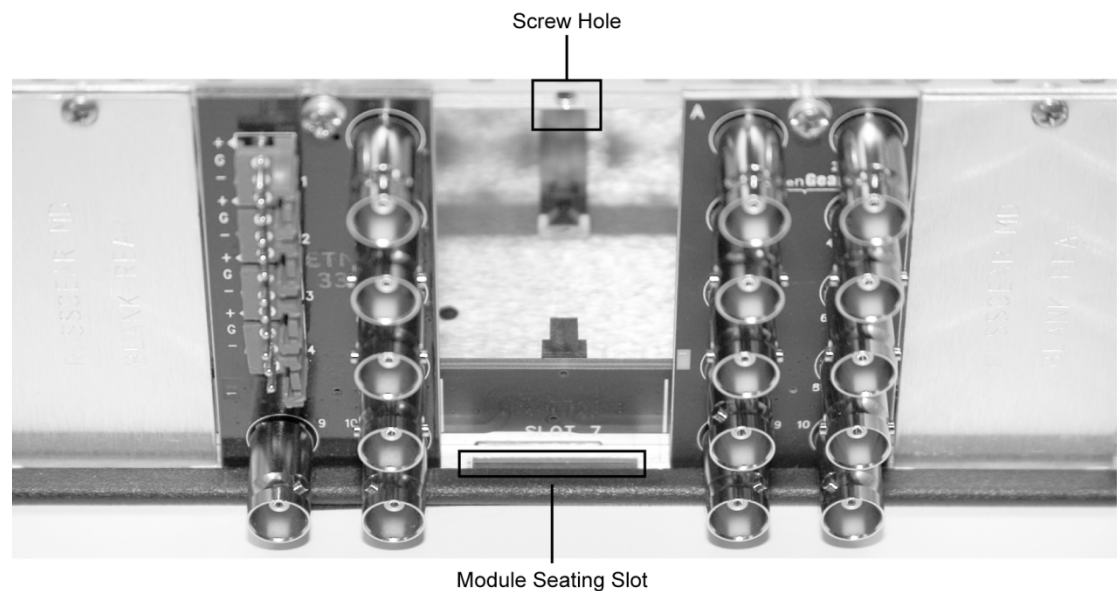

Figure 2.1 Rear Module Installation
3. Install the bottom of the Rear Module in the **Module Seating Slot** at the base of the frame’s back plane. (**Figure 2.1**)